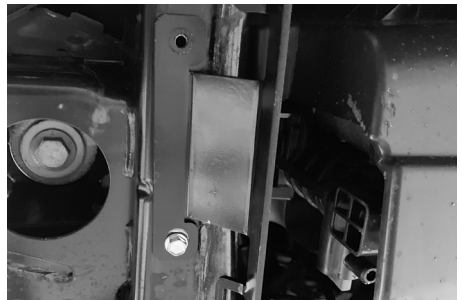

Figure 10: Passenger side shown
22. Using a $\frac{7}{32}$ " drill bit, drill a pilot hole for the first self-tapping screw. Install one side of the bracket using 1 of the $\frac{1}{4}$ " self-tapping screws. Once the first screw is installed, drill a $\frac{7}{32}$ " hole using the second bracket hole as a guide. (Figure 10)